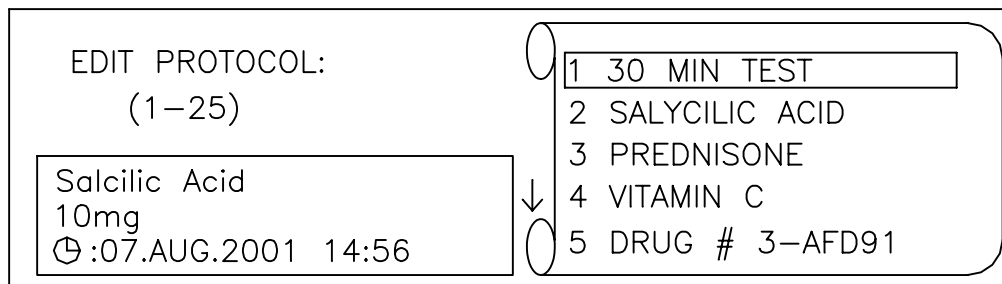

Figure 5-7: Edit Protocol Screen
1. With the Main screen displayed, press  [EDIT/VIEW PROTOCOL] to display the Edit Protocol screen. (see Figure 5-7)